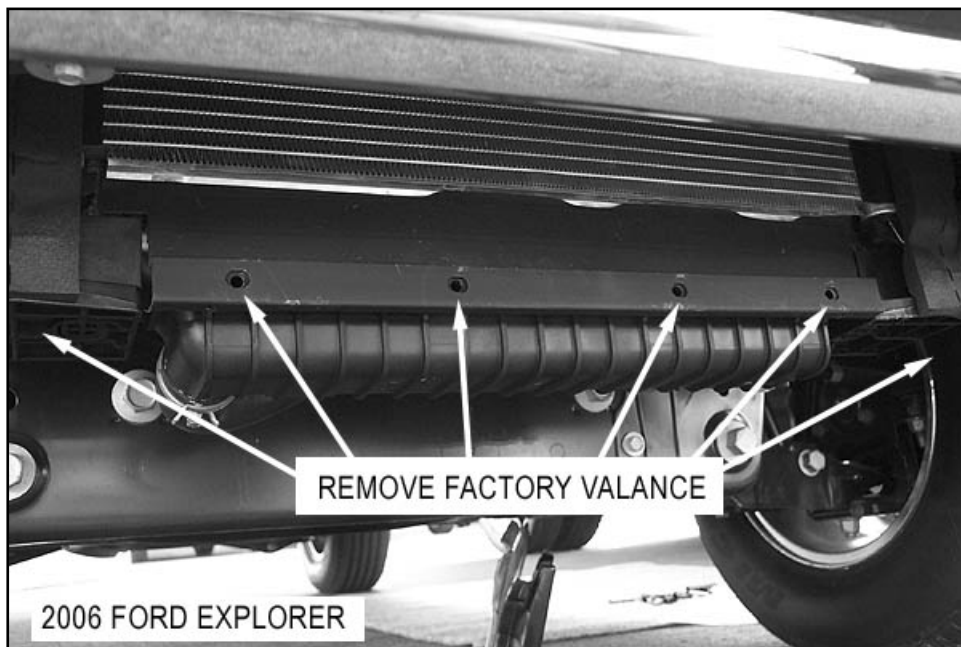

Fig. 1
1. Begin installation by removing the factory lower valance and plastic splash shield as shown in Fig. 1 place splash shield aside.